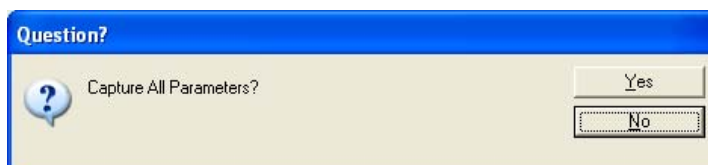

Figure 19: Capture All Parameters Message Box
4. In the Options menu, click **Capture Settings** to open the Capture All Parameters message box, shown in Figure 19.